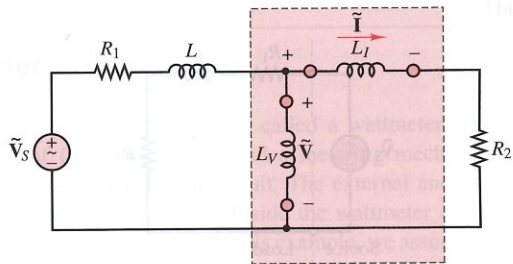

Figure 7.34
2. To measure the power dissipated by R_2 alone, we must measure the current through R_2 and the voltage across R_2 alone. The connection is shown in Figure 7.34. The meter will read